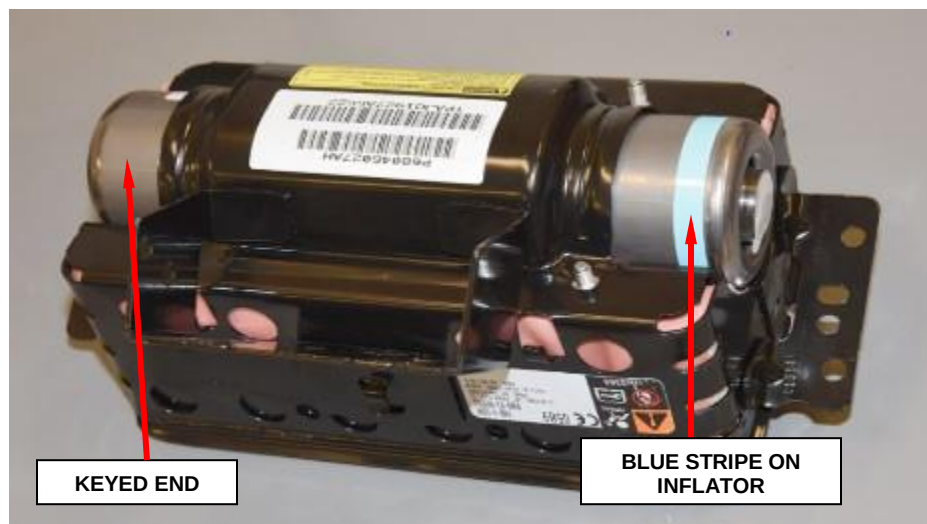

Figure 79 – Insert Inflator (Shown with Cushion Installed)
- h. Slide **new** inflator into housing. The keyed end is inserted first, therefore the blue stripe on the inflator will be located at the open end, as shown (Figure 79).